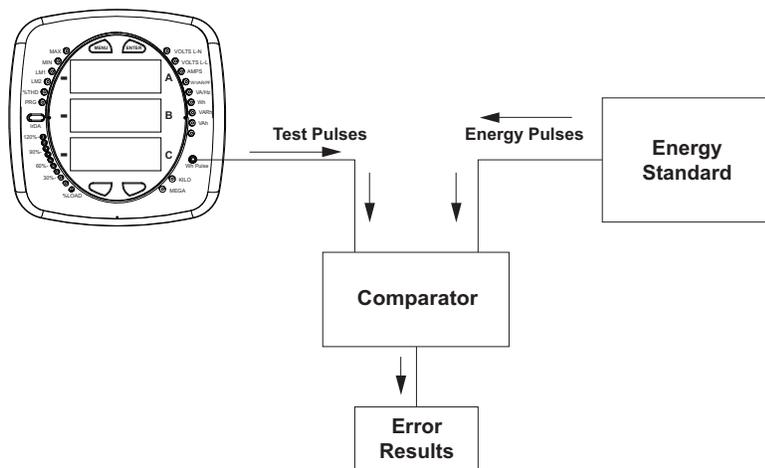

Figure 12-2: Using the Watt Hour Test Pulse
- Refer to Figure 12.2 for an example of how this process works.